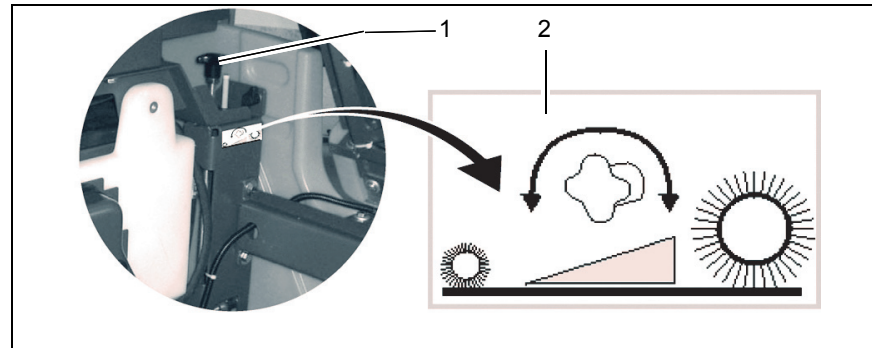

Fig.13
The sweeping track width can be adjusted at the star-shaped knob (Fig. 13/1) as follows:
4. Turn star-shaped knob (Fig. 13/1) to the left = wider sweeping tack to the right = smaller sweeping track (Sweeper adjustment sticker (Fig. 13/2))